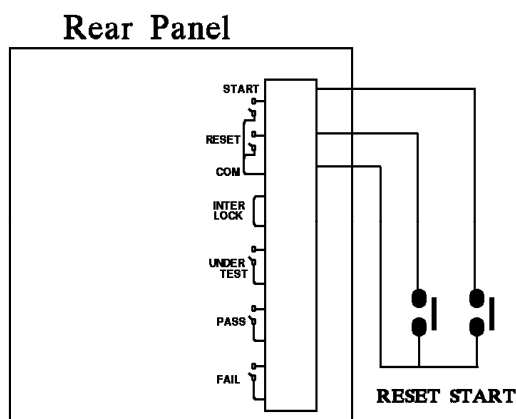

Figure 4-1
1. For single control of START and STOP signals follow *Figure 4-1* listed below to connect them to the REMOTE position on front panel of the main system.
4. Either the relay switch control in *Figure 4-1* or the coupler control in *Figure 4-3* uses the contact of components for control action. It can prevent the error operation from interference effectively. Though the system has a lot of precautions, it is necessary to be careful the interference caused by the measurement system settings.